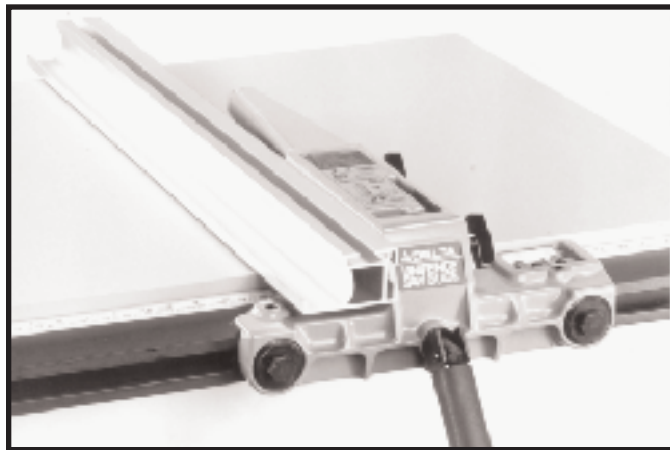

Fig. 51
3. When ripping thin stock, it is sometimes more convenient to use the fence in the horizontal position, as shown in Fig. 51.